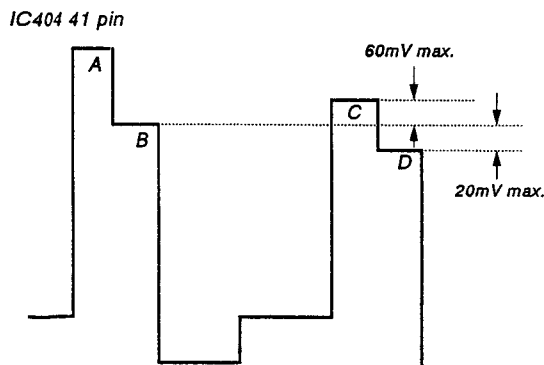

Fig. 17
- 4) Using **[R-Y LEVEL NTSC 358]**, adjust so that the tops of the waveform line up as in the diagram below. (Fig. 17)
- 4) Adjust **R-Y LEVEL NTSC 443** in the same manner as 6-4). (Fig. 17)